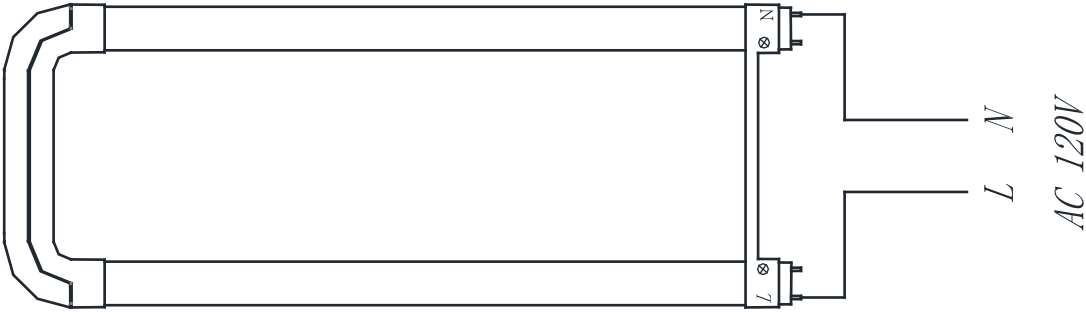

Fig. 3
**STEP 6:** In accordance with the below drawing, connect the wires of "L" and "N", shown as below Fig. 3: